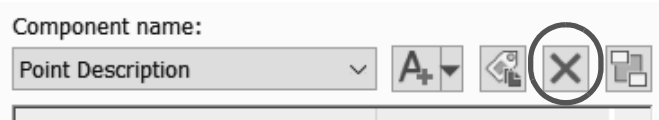

Figure 2–33
7. Select **Point Description** in the Component name drop-down list and do the following (shown in Figure 2–34):